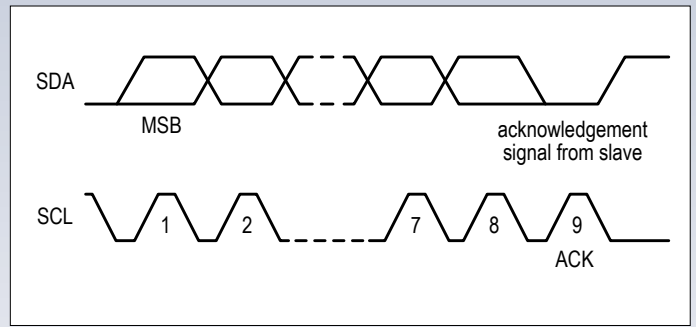

Figure 5. Sending the address bits.
2. After the start condition the master first sends the slave address (see **Figure 5**), with most significant bit first. This is followed by the read/write bit: 0 here means that data will be transferred from master to slave and 1 means that data will be transferred from slave to master. The slave address is usually seven bits long (although the I²C standard also provides for ten-bit addressing, this feature is rarely used) and is hard-wired, either wholly or partly, by the manufacturer of the slave device. It is often possible to use external circuitry on a slave device to configure some of its address bits, which allows several instances of the same device to be connected to a single bus using different addresses for each. The slave address will be given in the device data-sheet, or can be determined empirically using a program such as i2cdetect. The slave address plus the read/write bit makes a total of eight bits, or one byte.